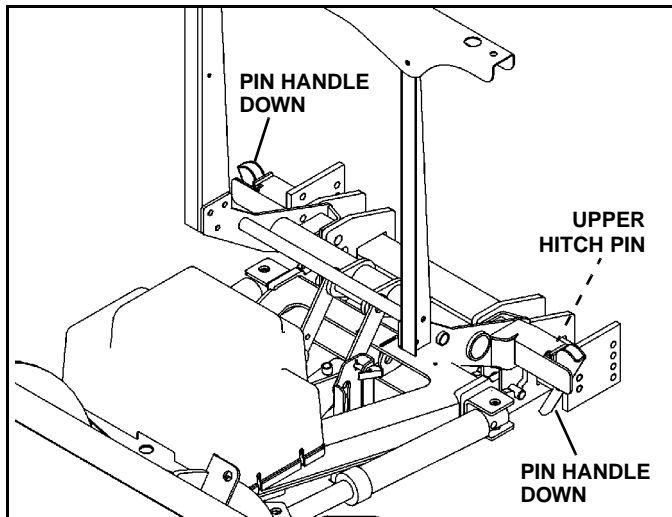

Figure 1-14
4. Put plow into float position by turning down pressure off. Rotate pin handles down to lock pins in place. (See Figure 1-14).